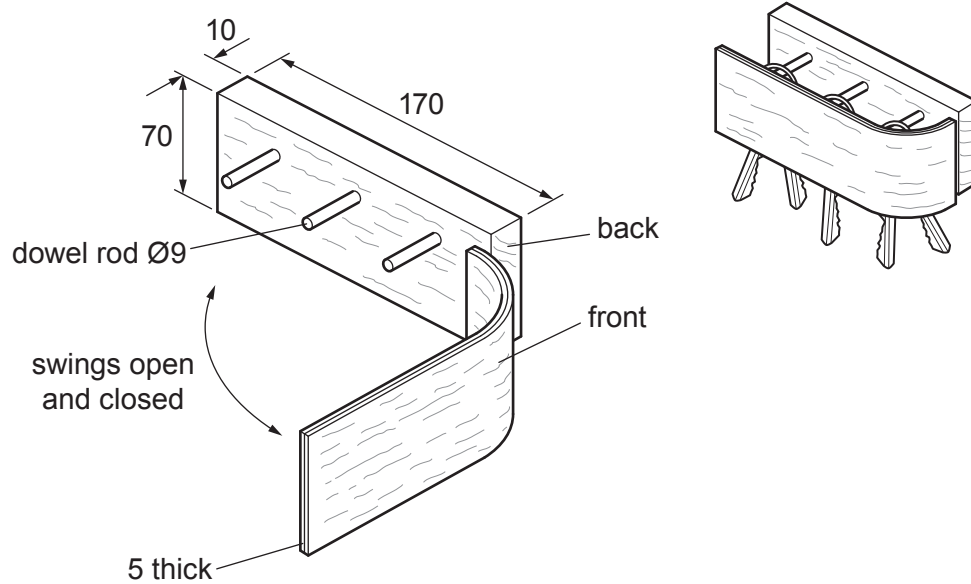

Fig. 11.1
- 11 Fig. 11.1 shows views of an incomplete design for a key rack made from hardwood. The front of the key rack can swing open and closed as shown.
- (c) Use sketches and notes to show how the front could be joined to the back and allowed to open and close as shown in Fig. 11.1.
- (e) The key rack shown in Fig. 11.1 could be made completely from acrylic.